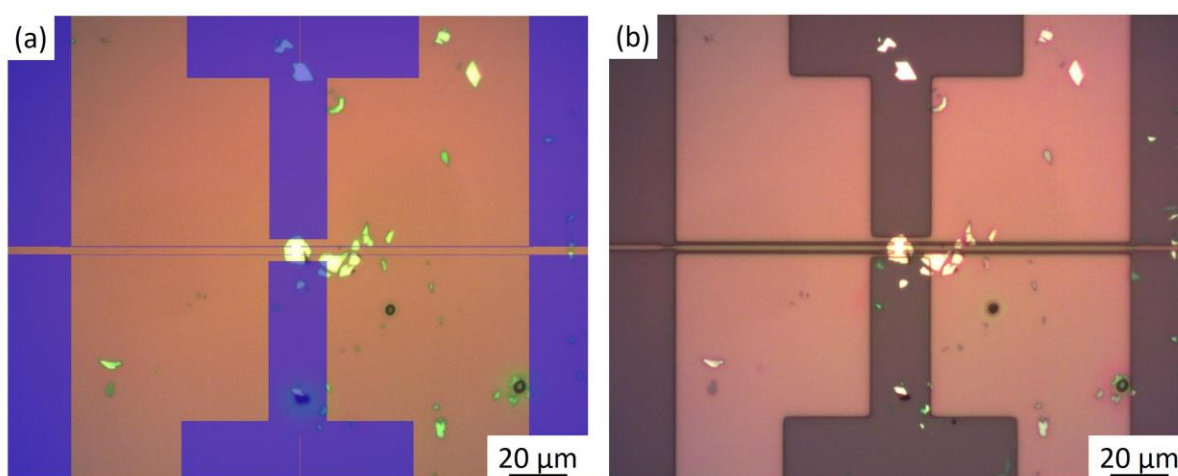

Figure 10 (a) Superimposition of the designed contacts (in blue) onto the real-time microscope image using VMA. (b) A microscope image of the exposure result.
- b. (Optional) Enable VMA to superimpose the contacts patterns onto the real-time video microscope display [Figure 10(a)]:
- d. Exposure and develop the sample, leading to result shown in Figure 10(b).